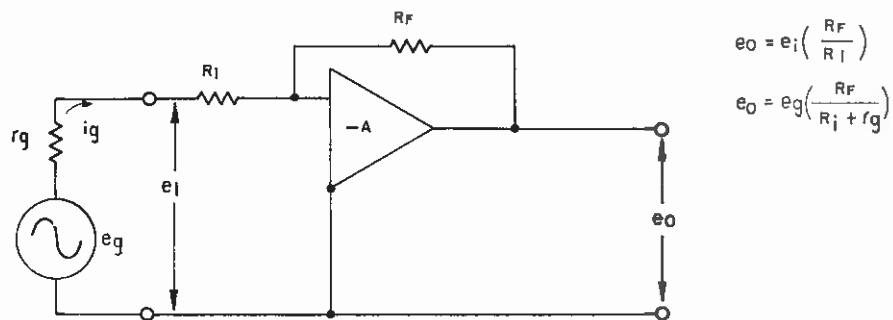

FIG. 3-9 INPUT SOURCES WITH HIGH INTERNAL IMPEDANCE
Making R_f a variable resistor will result in convenient control over the required range. (Refer to FIG. 3-9).
NOTE: If the input source has an appreciable source resistance, it must be considered in all gain calculations. Although the equation for the output voltage (2) does not change, we must remember that e_i is not the open circuit output from the generator but the input voltage to the closed-loop system (FIG. 3-9).
If (FIG. 3-9) e_g is the open-loop generator voltage, and r_g its internal impedance, e_i may be calculated from: